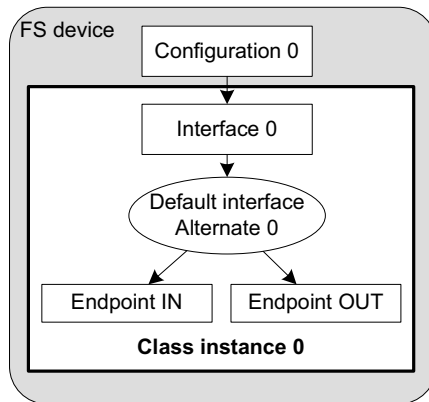
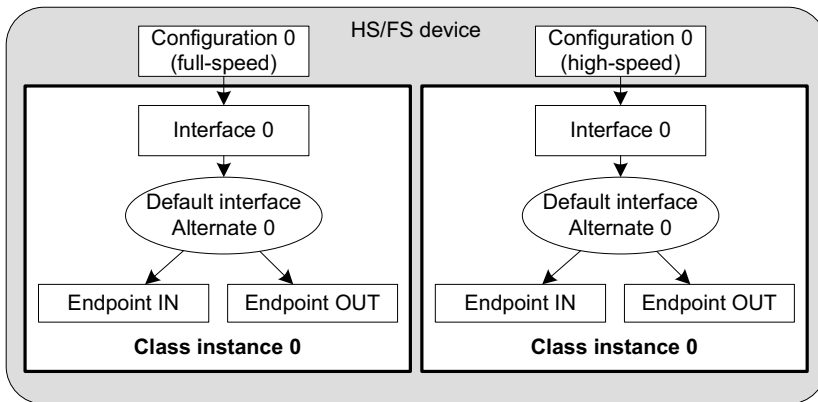

Figure 7-1 **Multiple Class Instances - FS Device (1 Configuration with 1 Interface)**
Figure 7-2 Multiple Class Instances - HS/FS Device (2 Configurations and 1 Single Interface)
The following illustrations present several case scenarios. Each illustration is followed by a code listing showing the code corresponding to the case scenario. Figure 7-1 represents a typical USB device. The device is Full-Speed (FS) and contains one single configuration. The function of the device is described by one interface composed of a pair of endpoints for the data communication. One class instance is created and it will allow you to manage the entire interface with its associated endpoint.
The code corresponding to Figure 7-1 is shown in Listing 7-1.
- L7-1(1) Initialize the class. Any internal variables, structures, and class Real-Time Operating System (RTOS) port will be initialized.
- L7-1(2) Create the class instance, `class_0`. The function `USB_D_XXXX_Add()` allocates a class control structure associated to `class_0`. Depending on the class, besides the parameter for an error code, `USB_D_XXXX_Add()` may have additional parameters representing class-specific information stored in the class control structure.
- L7-1(3) Add the class instance, `class_0`, to the specified configuration number, `cfg_0`. `USB_D_XXXX_CfgAdd()` will create the interface 0 and its associated endpoints IN and OUT. Hence, the class instance encompasses the interface 0 and its endpoints. Any communication done on the interface 0 will use the class instance number, `class_0`.
Figure 7-2 represents an example of a high-speed capable device. The device can support High-Speed (HS) and Full-Speed (FS). The device will contain two configurations: one valid if the device operates at full-speed and another if it operates at high-speed. In each configuration, interface 0 is the same but its associated endpoints are different. The difference will be the endpoint maximum packet size which varies according to the speed.
The code corresponding to Figure 7-2 is shown in Listing 7-2.
In the case of the high-speed capable device presented in Figure 7-2, in order to enable the use of *Device\_Qualifier* and *Other\_Speed\_Configuration* descriptors, the function `USBD_CfgOtherSpeed()` should be called during the  $\mu$ C/USB-Device initialization. Listing 2-5 presents the function `App_USBD_Init()` defined in `app_usbd.c`. This function shows an example of the  $\mu$ C/USB-Device initialization sequence. `USBD_CfgOtherSpeed()` should be called after the creation of a high-speed and a full-speed configurations with `USBD_CfgAdd()`. Listing 7-3 below shows the use `USBD_CfgOtherSpeed()` based on Listing 2-5. Error handling is omitted for clarity.
Figure 7-3 represents a more complex example. A full-speed device is composed of two configurations. The device has two functions which belong to the same class. Each function is described by two interfaces. Each interface has a pair of bidirectional endpoints. In this example, two class instances are created. Each class instance is associated with a group of interfaces as opposed to Figure 7-1 and Figure 7-2 where the class instance was associated to a single interface.
You can refer to section 5-4 “Configuration Examples” on page 71 for some configuration examples showing multiple class instances applied to composite devices. Composite devices use at least two different classes provided by the  $\mu$ C/USB-Device stack. The section 5-4-2 “Composite High-Speed USB device” on page 73 gives a concrete example based on Figure 7-2. See section 5-4-3 “Complex Composite High-Speed USB device” on page 74 for a hybrid example that corresponds to Figure 7-2 and Figure 7-3.